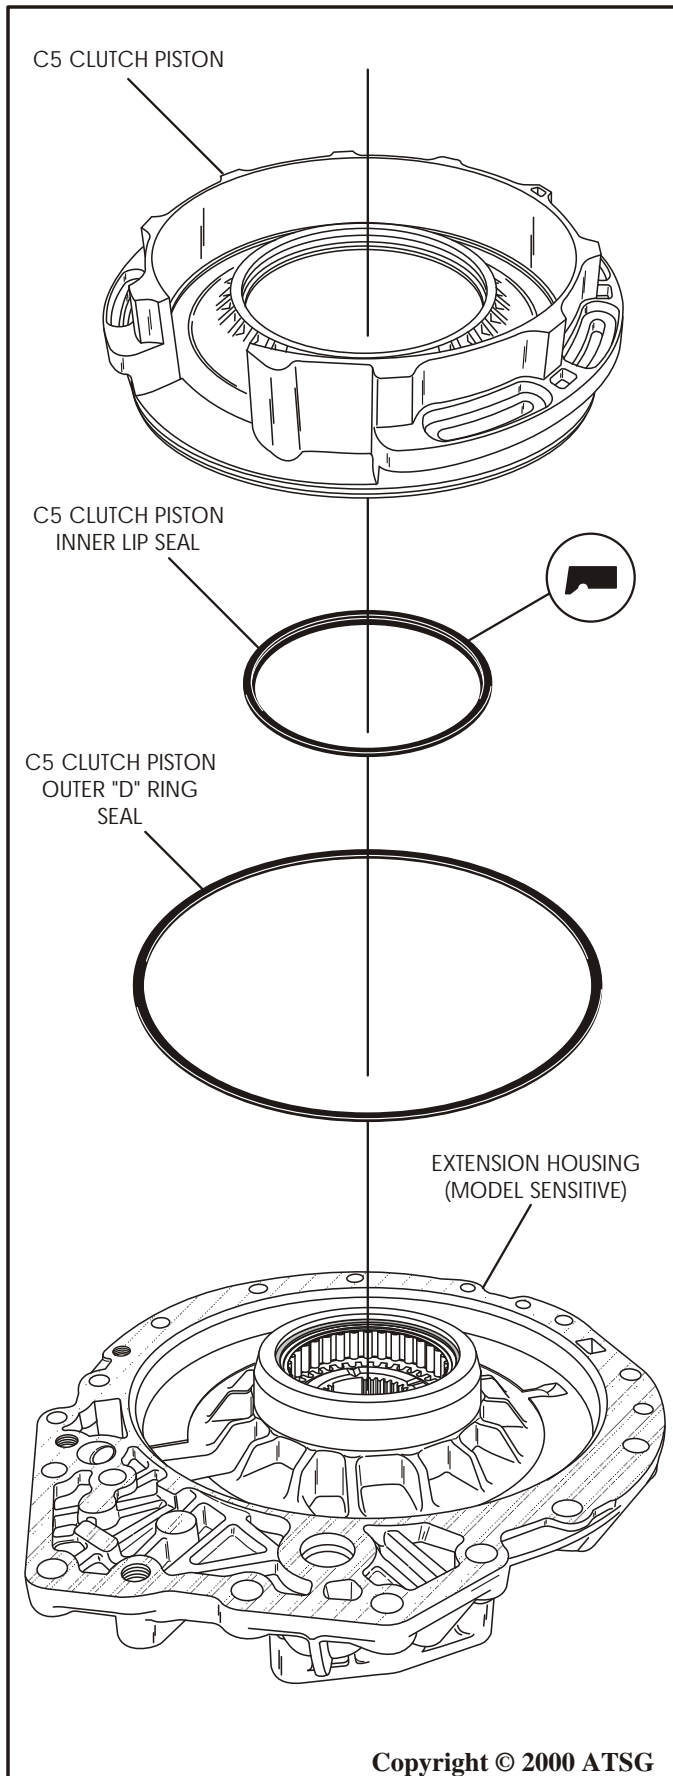

Figure 137
14. Install the C5 clutch piston inner lip seal into the piston with the lip facing direction shown in Figure 137.
15. Install the C5 clutch piston outer "D" ring seal into the groove in piston (See Figure 137).
16. Lubricate both piston seals, and seal surfaces in the extension housing with a small amount of TransJel® (See Figure 137).
17. Install the C5 clutch piston assembly into the extension housing, using care so as not to cut or damage the seals (See Figure 137).